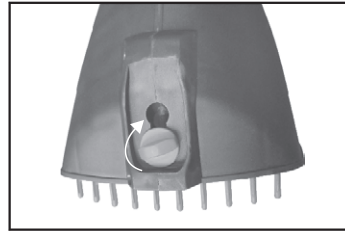

Fig. 5B
2. Lock the knob by rotating 90 clockwise. (Fig. 5B)